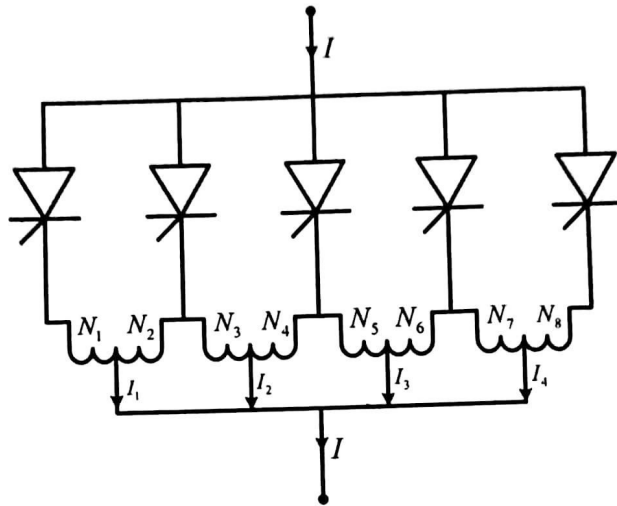

Fig. 1
1) For the circuit shown in Fig. 1, find out the ratios $N_1 : N_2, N_3 : N_4, N_5 : N_6,$ and $N_7 : N_8$ of the center tapped reactors, such that current is equally shared between the five thyristors, and also between the feeders such that $I_1 = I_2 = I_3 = I_4$.